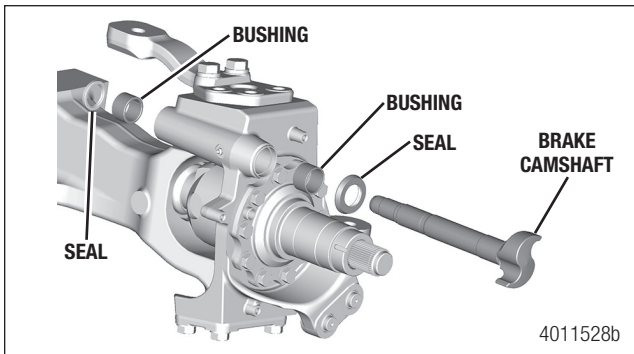

Figure 8.21
9. If removed, install new camshaft bushings and grease seals into the knuckle. Figure 8.21.